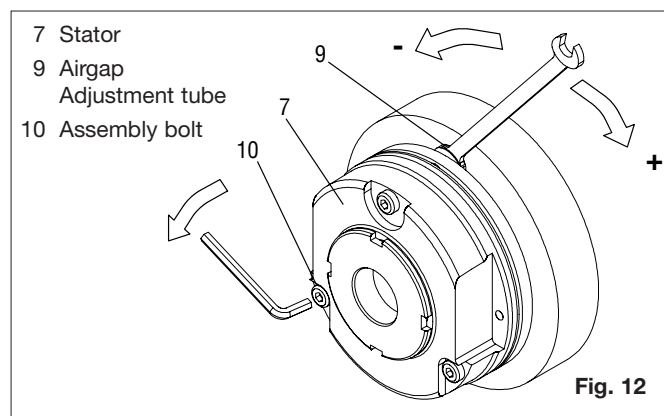
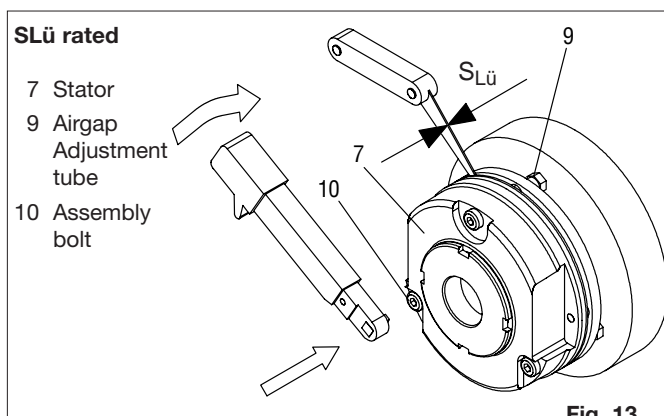

Fig. 12
Fig. 13
1. Loosen assembly bolts (10) (See Fig. 12).
2. Turn the airgap adjustment tubes (9) into or out of the stator to reduce or increase the airgap (Note – 1/6 turn corresponds to approx 0.15mm).
3. Re-tighten the bolts to torque Fig. 13 (see Section 4.2).